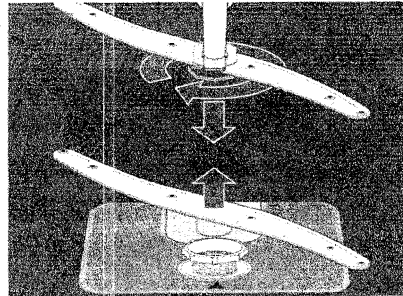

Figure 36
2. The upper wash arm is held in position by a locking nut. Turn the locking ring approximately 1/8 turn clockwise to release the arm. See Figure 36.